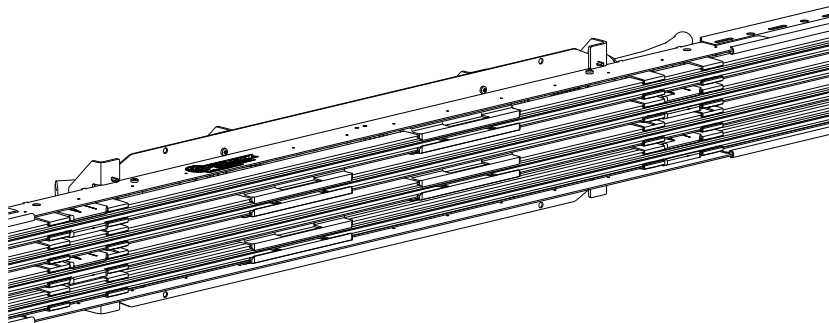
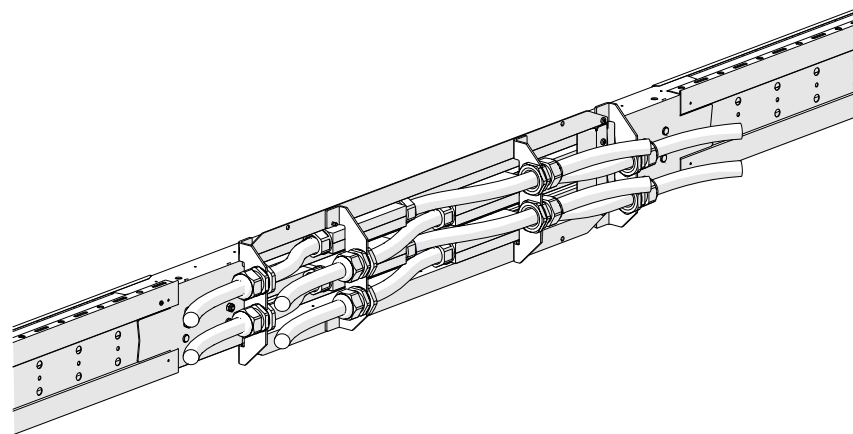

Fig. 49: Front view
Fig. 50: Rear view
8. Install all other conductor rail poles in the same way and remove the auxiliary consoles from the ProShell support profile (see Fig. 49 and Fig. 50 ).